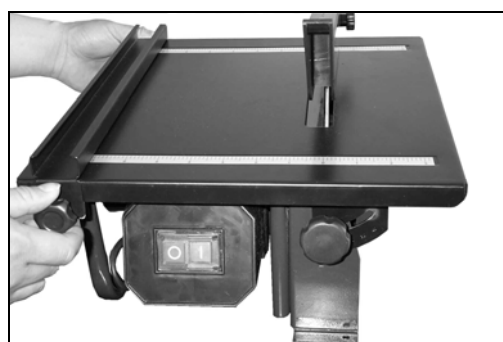

Figure 3: Parallel guide locking knob
2. Unlock the parallel (Figure 3) guide and slide it to the edge of the table.